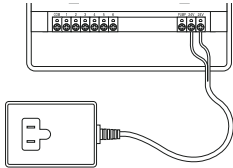

Figure 21: Connecting Pump Start and Transformer
- Plug in transformer [See Figure 21].